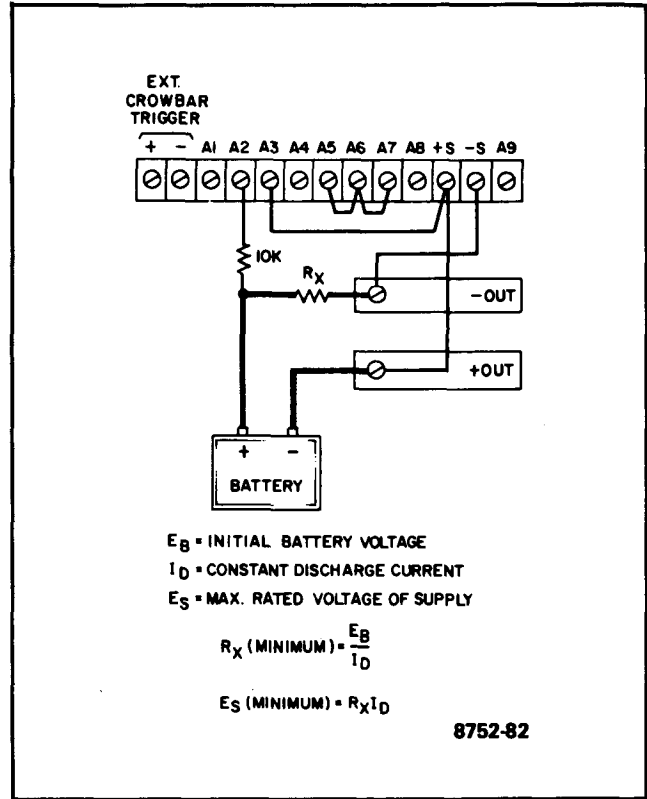

Figure 3-17. Battery Discharging
3-92 These power supplies are also useful when batteries must be discharged at a constant current in order to test them. Connecting a supply as shown in Figure 3-17 and following the instructions below makes an unattended constant-current discharge possible by automatically shutting off the output of the supply when the battery voltage reaches zero.
the supply senses this through the connection to its A2 terminal and reduces the output current to zero. (If this automatic shutoff feature is not required, the 10k ohm resistor may be omitted.) As shown in Figure 3-17,  $R_x$  must be selected so that its IR drop is less than the maximum rated output voltage of the supply, but greater than the initial battery voltage.
- b. Connect terminal A3 to +S and leave all other jumpers connected as for normal operation as shown in Figure 3-17.